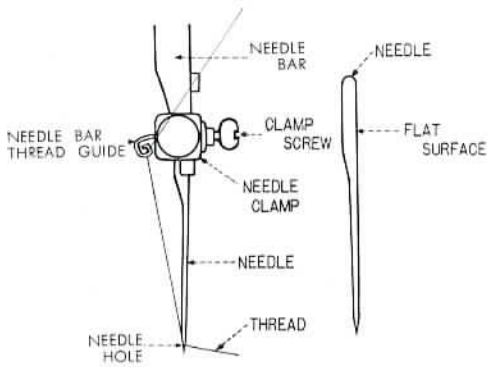

Fig. 3
2. Hold the needle in the left hand with the point down, and insert the needle up into the needle clamp as far as it will go, with its flat surface to the right; then retighten the needle clamp screw (Fig. 3).